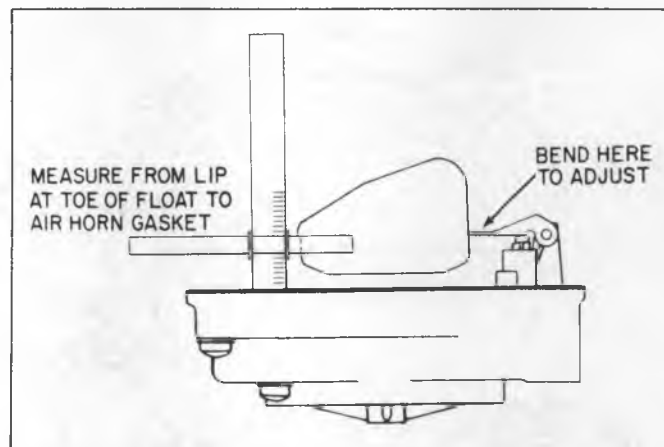

Fig. G9--Float Level Adjustment (Nitrophyl)
1. With air horn inverted, gasket in place and needle seated measure distance from lip at toe of float to air horn gasket. Adjust float to specifications by bending tang (fig. G9).